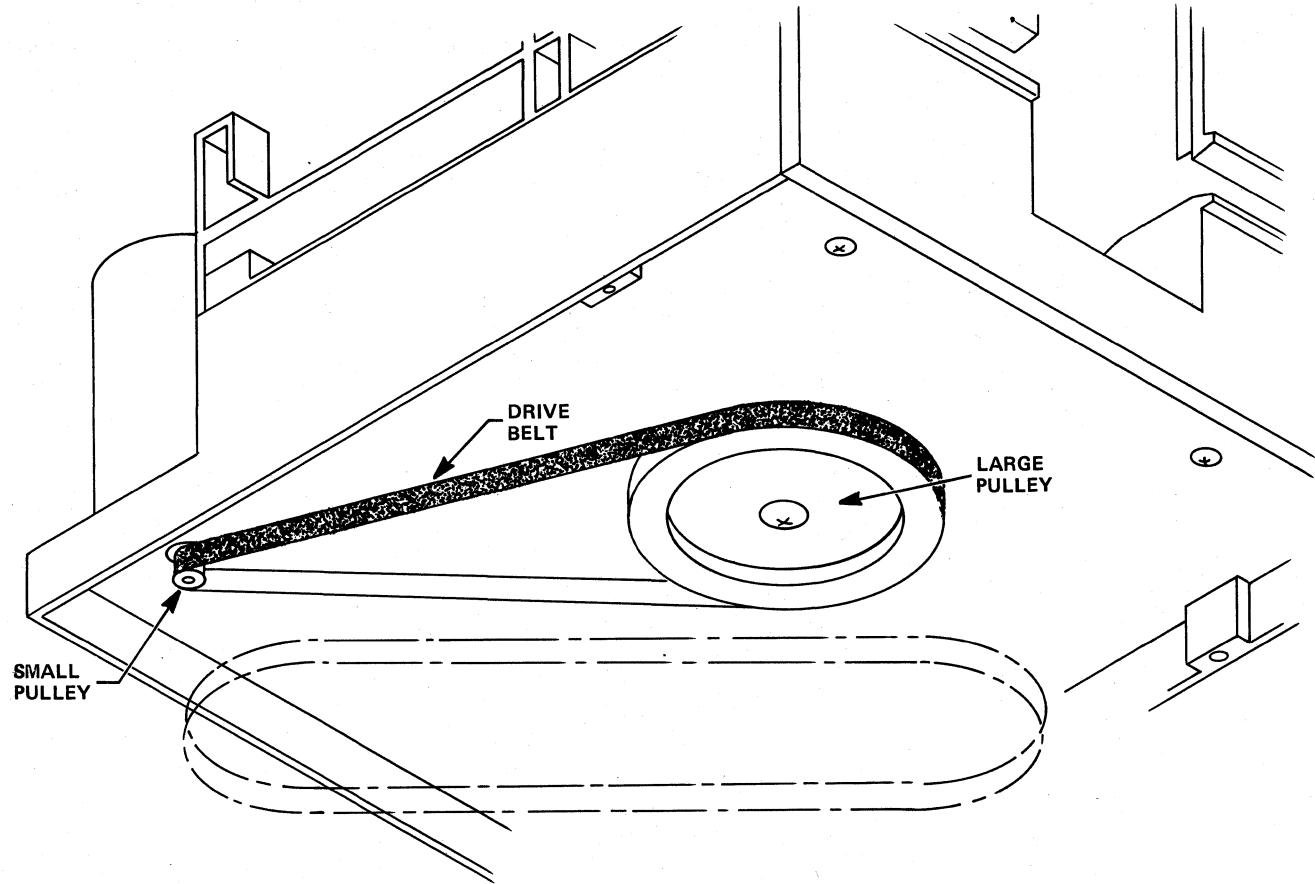

Figure 5-1
- 5.1.1 Remove the old drive belt from the pulleys (see Figure 5-1).
- 5.1.2 Taking care not to stretch the new drive belt, install it with the dark, shiny side facing the pulleys (see Figure 5-1).